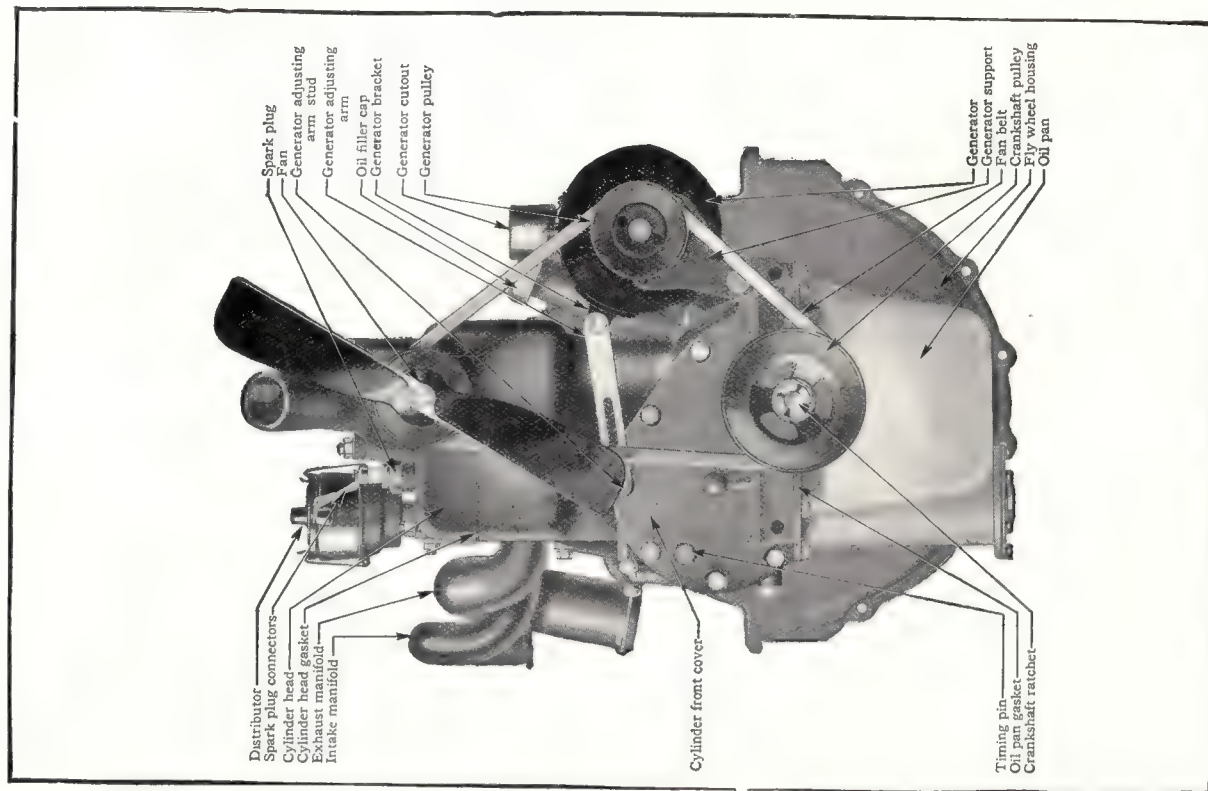

Figure 16
3. Screw out timing pin located in timing gear cover (see Fig. 16, page 42), and insert opposite end of pin into the hole from which it was removed.